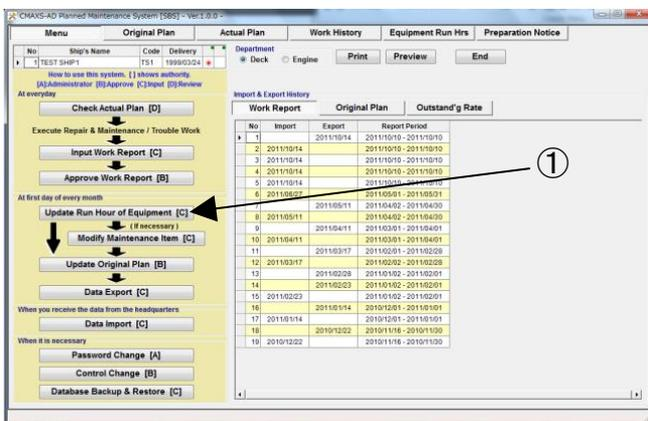
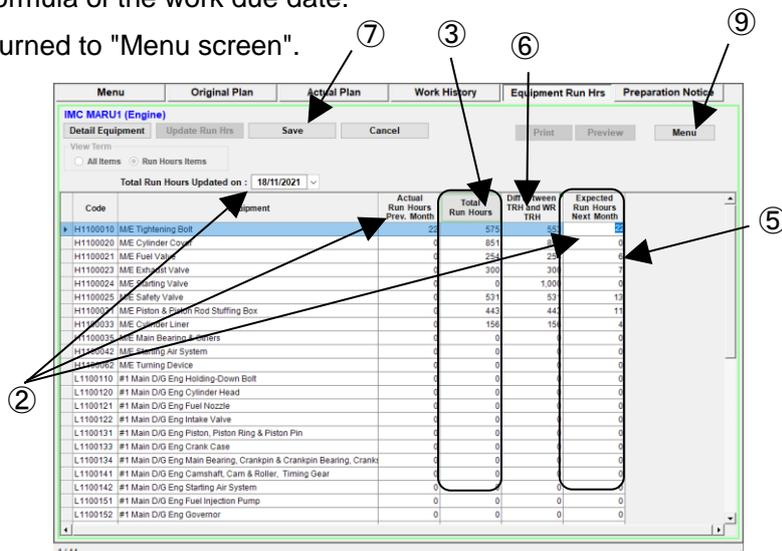

Fig.9-1 Menu Screen
Fig.9-2 Equipment Run Hrs Screen
- (1) On the "Menu screen" (Fig.9-1), select [Update Run Hour of [Equipments]]. "Equipment Run Hrs Screen"(Fig.9-2) is displayed.
- (2) Enter the operation time update date, and if you know the operation time of the previous month, enter it in "Actual Run Hours Prev. Month". The previous month's driving time will be added to "Total Run Hours", and the same value entered in "Actual Run Hours Prev. Month" will be entered in "Expected Run Hours Next Month".
- (3) If you do not know the operation time of the previous month, click the [Total Run Hours] button and enter the total operation time. "Expected Run Hours Next Month" is calculated based on the entered total operating time.
- (4) "Expected Run Hours Next Month" is calculated by the following formula.